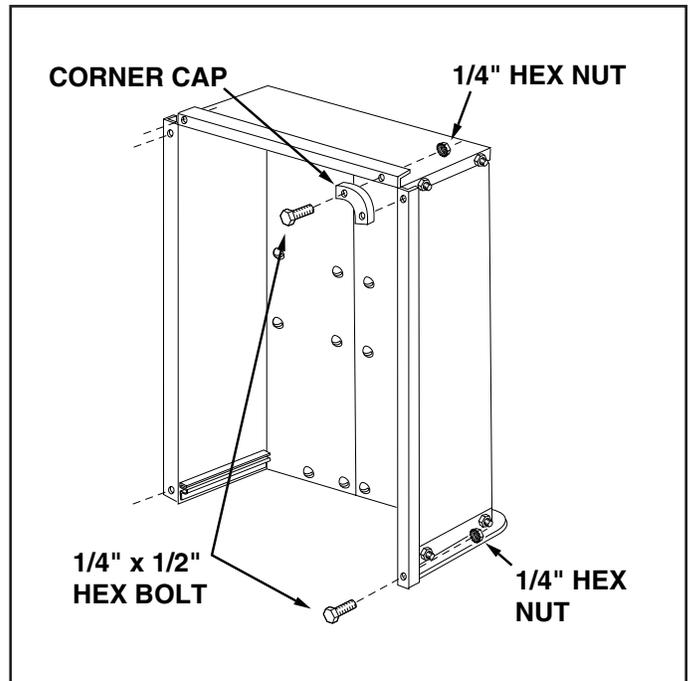

FIGURE 7
13. Assemble the two corner caps to the front corners of the cart using four 1/4" x 1/2" hex bolts and 1/4" hex nuts. Also assemble two 1/4" x 1/2" hex bolts and 1/4" hex nuts to the two rear corners of the cart. **Tighten**. See figure 7.